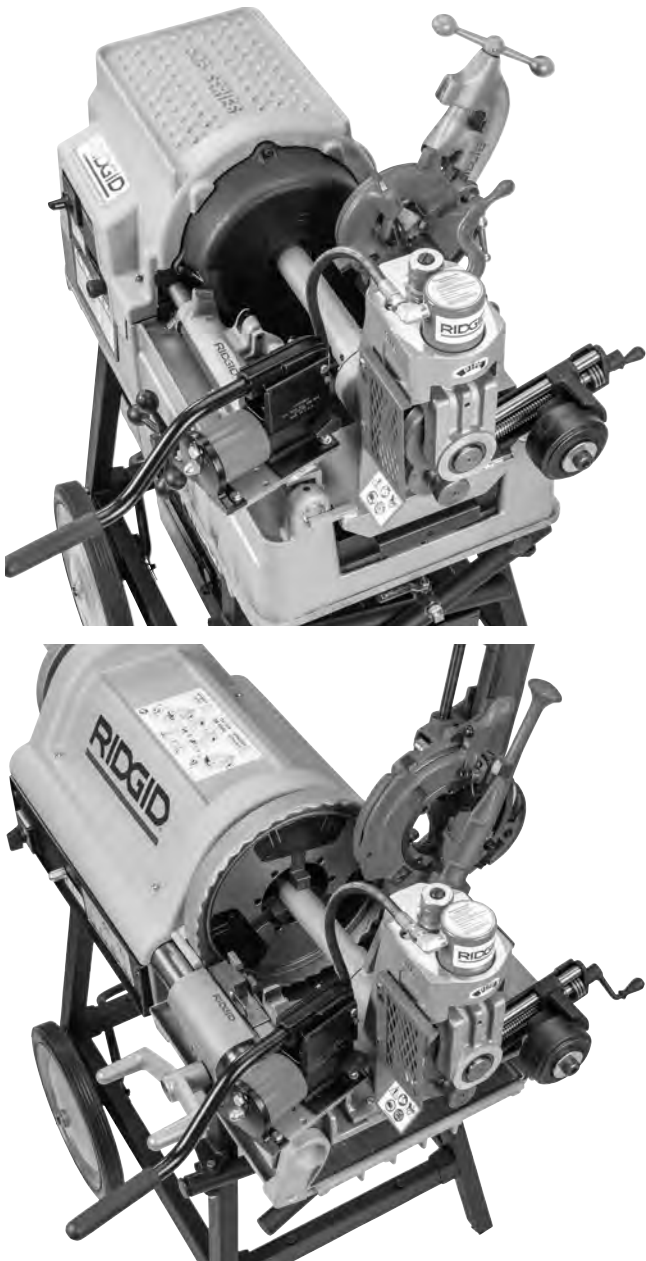

Figure 10 – 918 installed on 535A and 1224
5. With the 918 positioned at the end of the threading machine securely tighten the machine front chuck on the drive bar. See Figure 10.